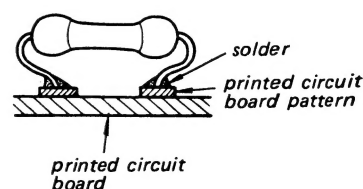

Fig. 5
4. Use lead type resistors to replace the MELF components. This replacement may be mounted with short leads (see Fig. 5).